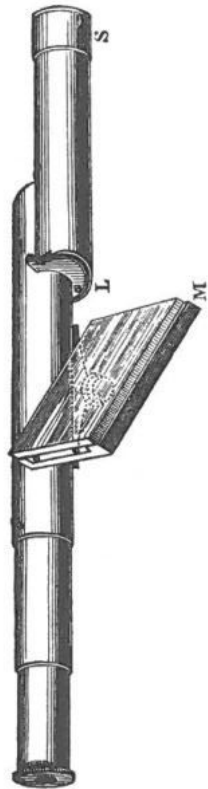
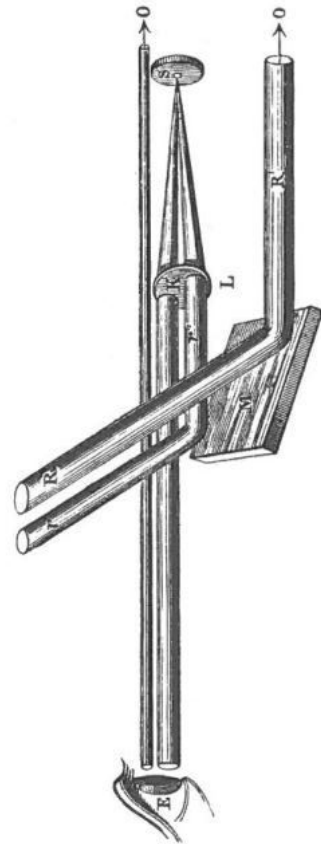

Fig. 1.
Fig. 2.
*Hand Heliostat.*—Some years ago, I took great pains to contrive a convenient pocket instrument, by which a traveller should be able to signal with the sun, and direct his flash with certainty, in whatever direction he desired. I did so in the belief that a signalling power of extraordinary intensity could thus be made use of; and, I am glad to say, I succeeded in my attempt. I at last obtained a pretty pocket instrument, the design of which I placed in the hands of Messrs. Troughton and Simms; and upon the earlier models of which I read a paper before the British Association in 1858. I called it a "hand heliostat." I always carry one when I travel, for it is a continual source of amusement. The instrument is shown in fig. 1 (p. 280), and its principle is illustrated by fig. 2. The scale is about  $\frac{3}{4}$ .
E is the eye of the signaller; M the mirror; and L, S, fig. 2, a tube, containing at one end, L, a lens, and at the other, S, a screen of white porcelain or *unpolished* ivory, placed at the exact solar focus of L: a shade, K, with two holes in it, is placed before L. Let R, r, be portions of a large pencil of parallel rays; proceeding from any *one point* on the sun's surface, and reflected from the mirror, as R' r' (fig. 2). r' impinges upon the lens, L, through one of the holes in K, and R' goes free toward some distant point, O. Those that impinge on the lens will be brought to a focus on S, where a bright speck of light might be seen. This speck radiates light in all direction; some of the rays, proceeding from it, impinge on the lens at the other hole in the shade K, as shown
in fig. 2, and are reduced by its agency to *parallelism* with  $r'$  and  $r$ , that is, with the rays that originally left the mirror: consequently E, looking partly at the edge of the lens, and